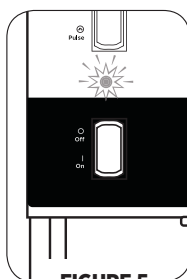

FIGURE 5
The machine will shut off automatically at the end of the programmed cycle. When the program is within 4 seconds of completion, the LED Indicator light will blink so preparation can begin to remove the cup from the agitator. The blinking light will get progressively faster to indicate that the program cycle is almost complete and the machine will shut off. This provides an indication, so that excess product can be spun off the agitator. See Figure 5.
- For Mix'n Machine Advance Timer Model:** The machine will shut off automatically at the end of the preset time. When the program is within 4 seconds of completion, the LED Indicator light will blink so preparation can begin to remove the cup from the agitator. The blinking light will get progressively faster to indicate that the program cycle is almost complete and the machine will shut off. This provides an indication, so that excess product can be spun off the agitator. See Figure 5.